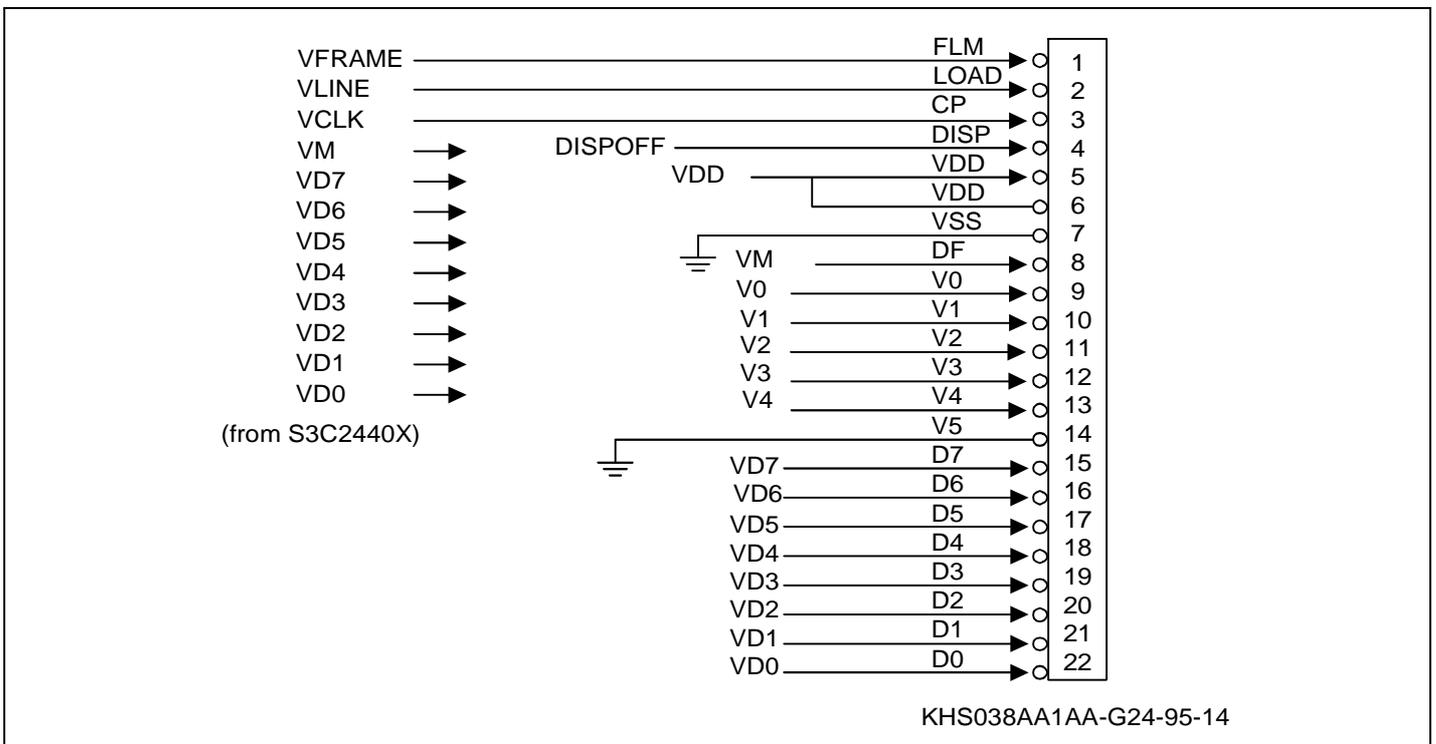

Figure 4-16. KHS038AA1AA-G24 Connection with S3C2440X (256 Color STN LCD)
- KHS038AA1AA-G24 (256 color STN LCD) from KYOCERA Co. (refer to Figure 4-16)